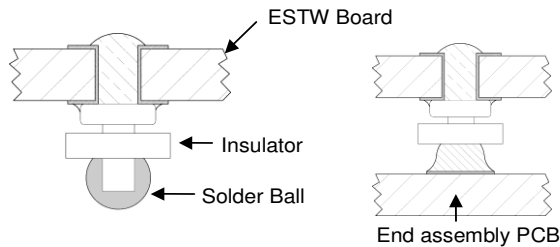

Figure 24. Column Pin Connector Before and After Reflow Soldering .
The surface mountable modules in the family use our newest SMT technology called “Column Pin” (CP) connectors. Figure 24 shows the new CP connector before and after reflow soldering onto the end-board assembly.